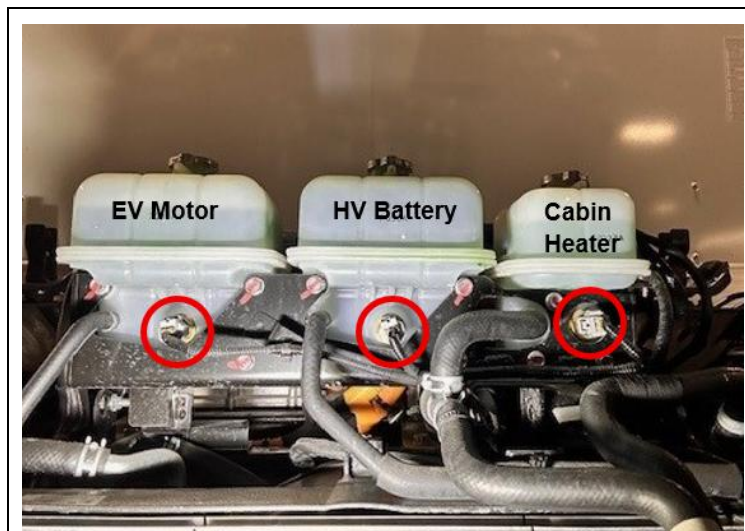

Figure 10
13. Disconnect the coolant level sensor connector at the HV battery reservoir or other reservoir as directed by this procedure. (See Figure 10.)